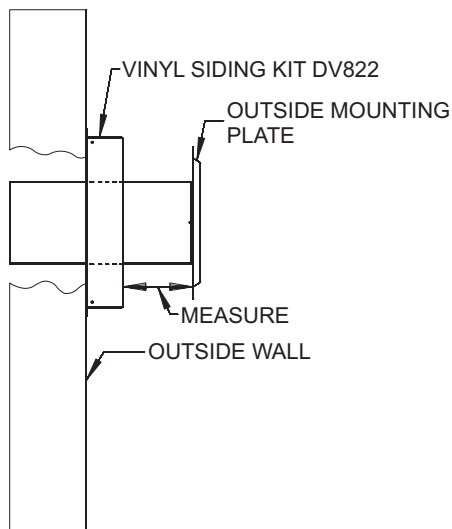
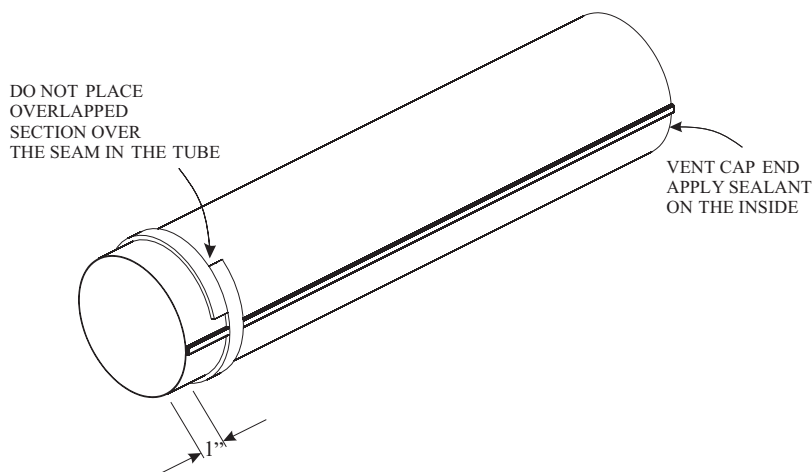

Figure 29
Figure 31
5. Attach the inlet tube to the outside mounting plate. Align tinnerman clips on the tabs of the air inlet tube to the holes on outside mounting plate, and fix with (2) #10 x 1/2" screws.
6. With the vinyl siding kit installed to wall (if necessary), insert the 6 5/8" (168mm) diameter tube with outside mounting plate attached through hole in wall. Connect to collar on fireplace or rigid vent system. Measure between wall or vent cap extension and outside mounting plate (**Figures 29 and 30**).
8. Attach the 4" (102mm) diameter flue outlet tube onto the rigid venting system or directly to fireplace. Ensure the 4" (102mm) diameter flue outlet tube is placed as far as possible onto the rigid venting system. Mark the 4" (102mm) diameter flue outlet tube 2 1/2" (64mm) beyond the vinyl siding kit or wall. See **Figure 29**. Remove the 4" (102mm) diameter flue outlet tube from rigid venting system. When installing directly to fireplace, tape gasket needs to be used.
10. From outside: Push the 6 5/8" (168mm) diameter inlet tube/ mounting plate onto end of rigid venting system to correct position. Fasten the outside mounting plate to the vinyl siding kit or wall with (4) 10 x 1 1/2" screws. (Ensure upward slope).
11. From inside: Attach the inlet tube to the collar on the back of the fireplace (or the rigid venting system) using (3) self tapping screws.
12. Seal the 4" (102mm) diameter flue outlet tube. Follow instructions and diagram. See **Figure 31**.
14. Fasten vent cap end using (3) 10 x 1/2" screws to mounting plate. **Sealing 4" (102mm) Diameter Flue Outlet Tube**
If the air inlet and flue outlet tubes are to be connected directly to the unit (no rigid venting system is being used), then the gasket provided must be used to seal the 4" (102mm) flue outlet tube. Peel the paper off the self-adhesive gasket and then wrap it around the end of the tube (if tube was cut, it is recommended to use cut end) as shown in Figure 31. Pull the gasket tight at all times while wrapping it around tube. The gasket ends should align, to form a complete seal. The overlapped section should NOT come in contact with the seam in the tube. Apply high temperature sealant to the opposite end of the tube (on the inside of the tube). The end with the gasket will attach to the back of the unit. Continue with Step 13.